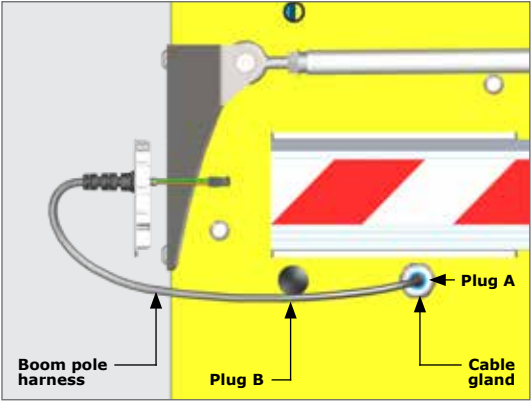

FIGURE 19
17. For a right-hand installation, remove the plastic plug A from the cabinet as shown in Figure 19 and fit the cable gland into the hole. For a left-hand installation, remove the plastic plug B from the cabinet and fit the cable gland into the hole.